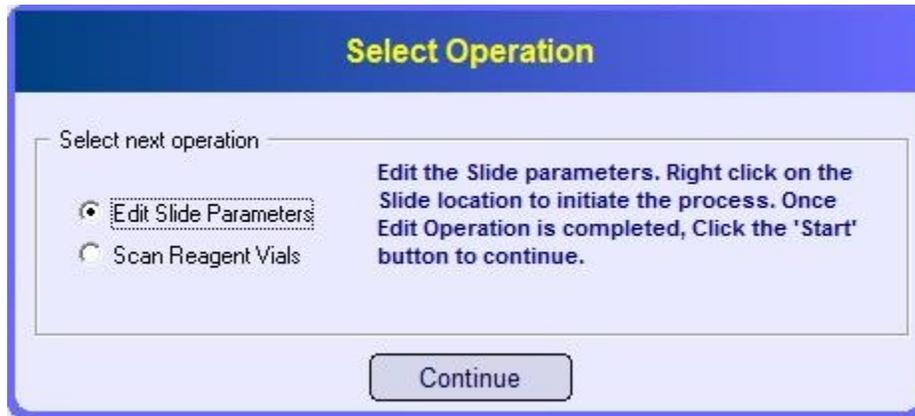

Figure 27: <Edit Slide Parameter> option on Slide operation Window
- i. Select option (Figure 27) to edit the protocol.